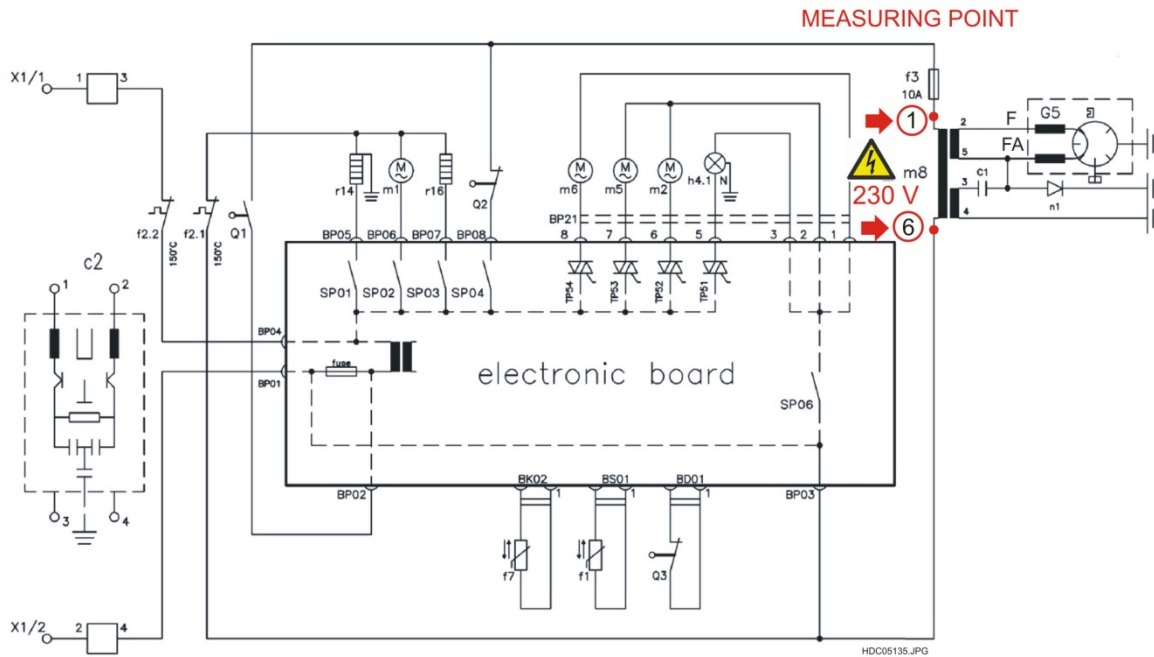
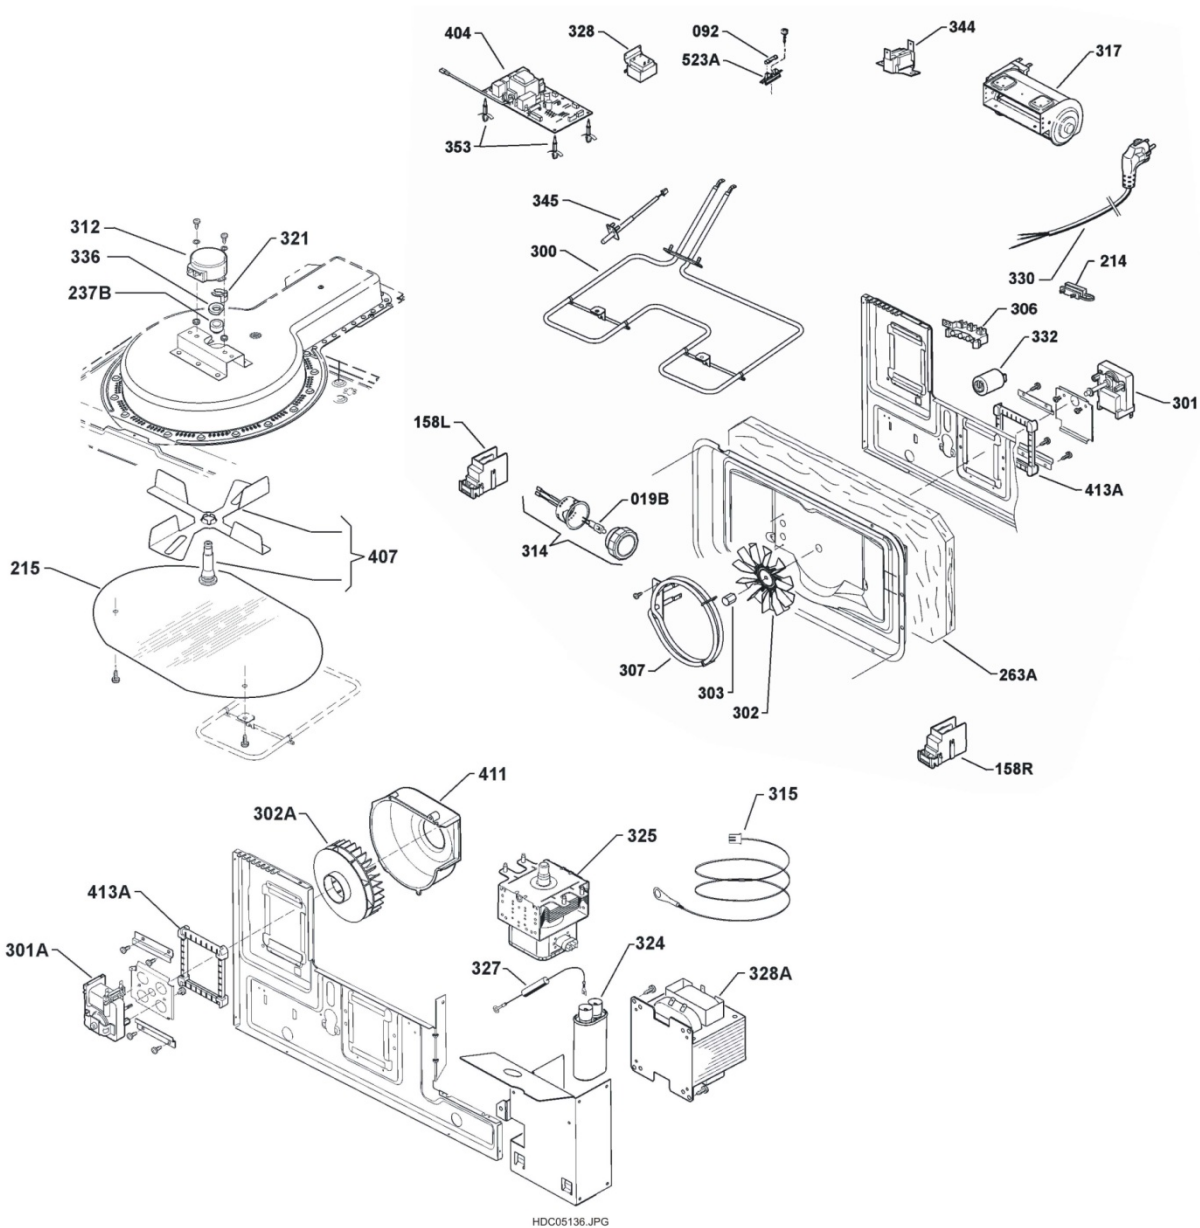

Fig. 23
Fig. 24
Right security door switch Q3. (Fig. 24 Pos 158R)	Check the switch if faulty replace.
2. Check if you have electrical power (230V) at the connection pin 1 and 6 of high voltage transformer (see Fig. 23). If it is no voltage:
3. Check fuse f3 (see Fig. 23 and Fig. 24 Pos. 092), if it is o.k.:
5. If it is not working after adjustment replace the electronic power board (see Fig. 24 Pos 404)
5. If not working changes first left security door switch (see Fig. 24 Pos. 158L) and if necessary right security door switch (see Fig. 24 Pos. 158R) (see Chapter "5.3 - PROCEDURE FOR ADJUSTMENT OF MICRO SWITCH DOOR" on page 22).
2. Check if you have electrical power (230V) at the connection pin 1 and 6 of high voltage transformer (see Fig . 23 page 17). If it is no voltage:
4. If you find no power exchange first diode n1 (Fig. 24 Pos. 327 page 18). Check power again.
5. Second step after diode change is replace capacitor c1 (Fig. 24 Pos. 324 page 18.)
7. Exchange magnetron g5 (Fig. 24 Pos. 325 page 18).
When you micro wave not working after all this steps last possibility is to change the high voltage transformer m8 (Fig. 24 Pos. 328A page 18).